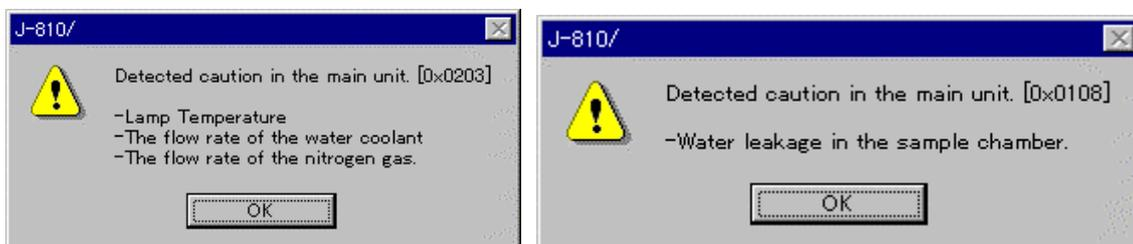

Fig. 2.6 Error message
Note (3): If the light source temperature exceeds the normal level, a warning message (see Fig. 2.6) will be displayed along with buzzer alarm. In that event, take actions according to Table 2.1 "Corrective Actions against Errors".